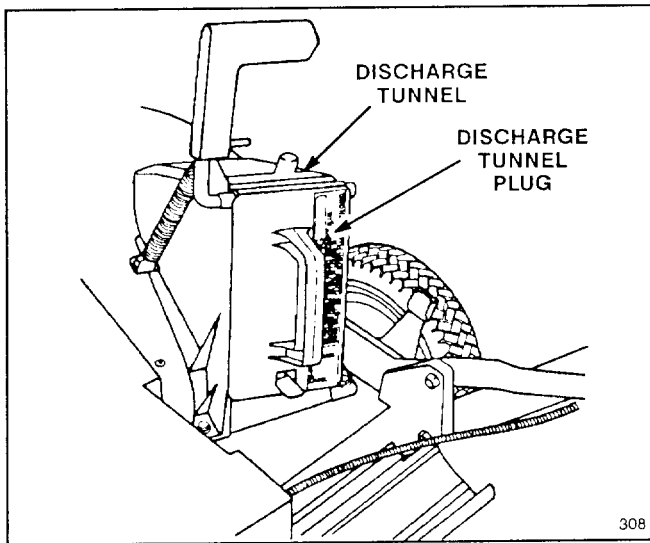

Figure 26
2. Rear Bagging Kit, Model No. 59174 — Install discharge tunnel and rear mounting grass bag to convert the Recycler® mower to a rear bagging mower (Fig. 26). Includes discharge tunnel plug.